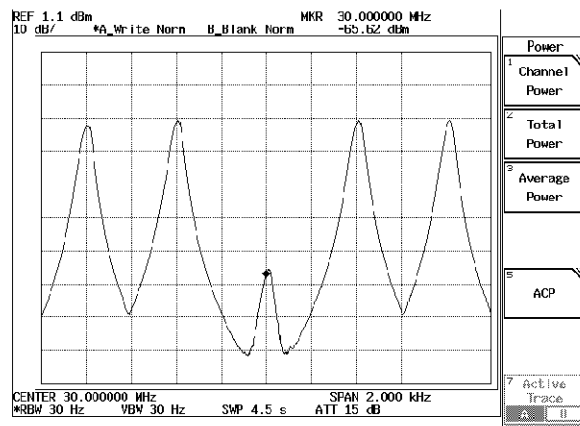

Figure 6-2 Display of Searching the Minimum FM Deviation
5. On the SG, adjust the FM deviation between 0.86 kHz to 1.06 kHz to search the signal level to be minimum while monitoring R3267 Series display as shown in Figure 6-2.